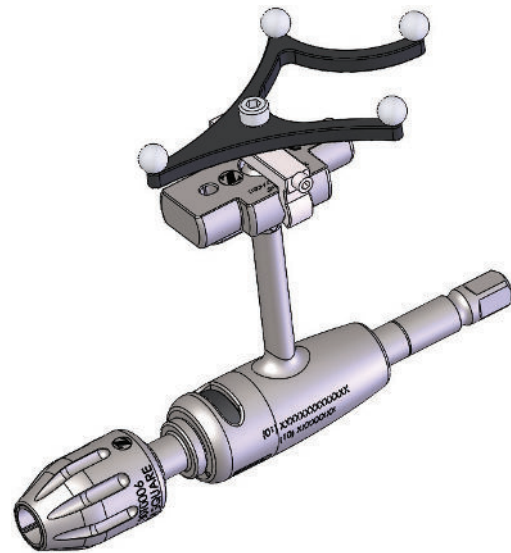

Figure 5
- Tighten and lock the array to the proper section of the array support (Figure 5) using Medtronic driver from SureTrak II kit.
- Insert the appropriate nut and provisionally tighten on the chuck end of the shaft (Figure 5).